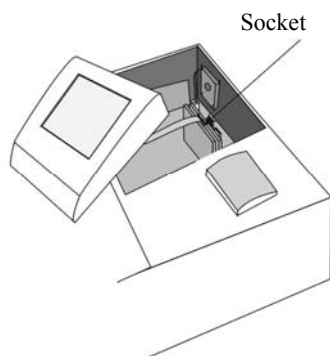

Figure 2-3-1
- (1) As Figure 2-3-1, connect the wire of the screen with the corresponding socket on the main body;